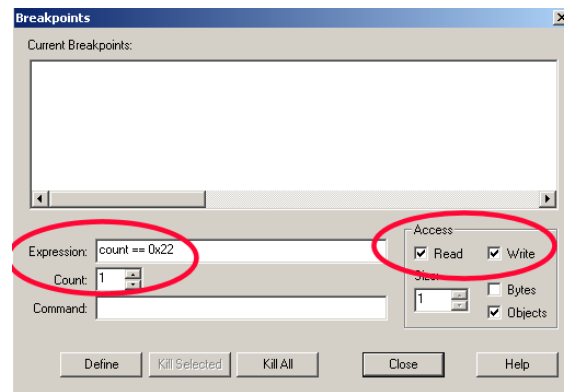

Figure 16: count Defined
Watchpoints are also known as Access Breaks and are indicated by an (A in Figure 16. They are set in the Breakpoints Window. Watchpoints can be thought of as conditional breakpoints when compared to an Execution breakpoint. Execution breakpoints stop the CPU when a specified instruction is fetched (but not executed). Watchpoints stop the CPU when a specified data access occurs and any specified expression becomes true. There might be some skid. This is useful for locating read and write operations you do not expect.
6. Click on Define and the Watchpoint moves to the upper half as in Figure 16. Click on Close.